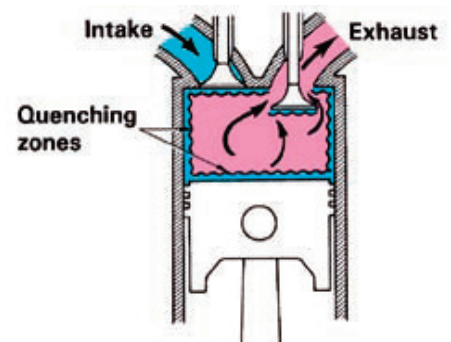

Figure 3 Quenching can occur during cold engine start-ups. Some of the air-fuel mixture may condense on surfaces inside the combustion chamber.
CO is produced by incomplete combustion of the fuel, which can be caused by poor mixing of the fuel and air at the time of combustion. This is a particular problem when the engine is cold and temperatures around the cylinder walls are low, which leads to "quenching" (figure 3). Quenching occurs when the relatively colder surfaces in the combustion chamber allows fuel to condense on the cylinder walls, just as steam will condense on a cooler surface. Fuel left unburnt in these quenching zones is then exhausted during the exhaust cycle as HC.
- raw gas remaining near the walls of the cylinder after burning, and exhausted during the exhaust cycle quenching zones (see figure 3).